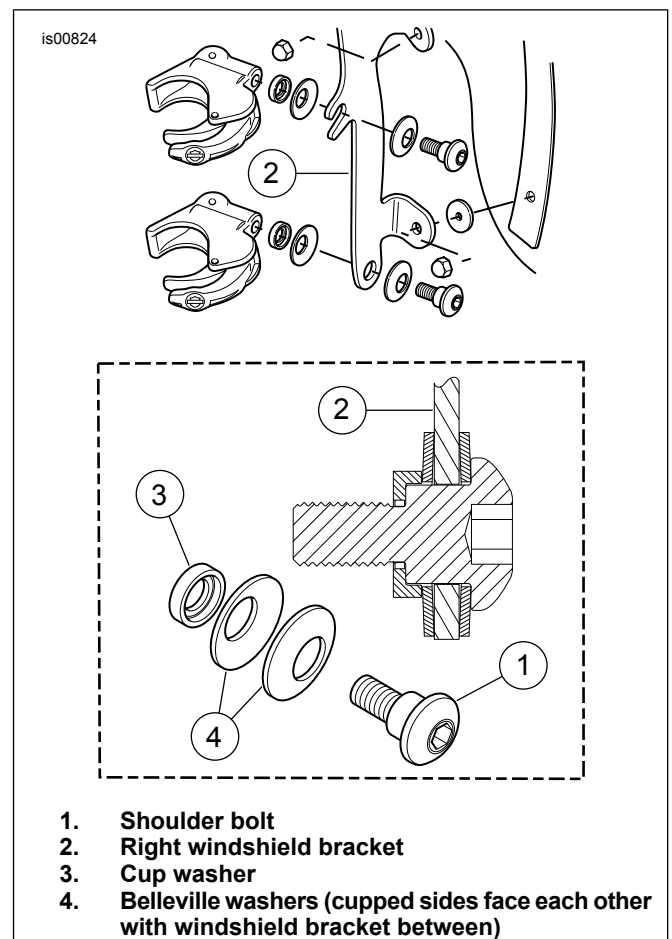

Figure 11. Windshield Mounting Clamp
3. See Figure 11. Assemble clamp assemblies and hardware stacks.